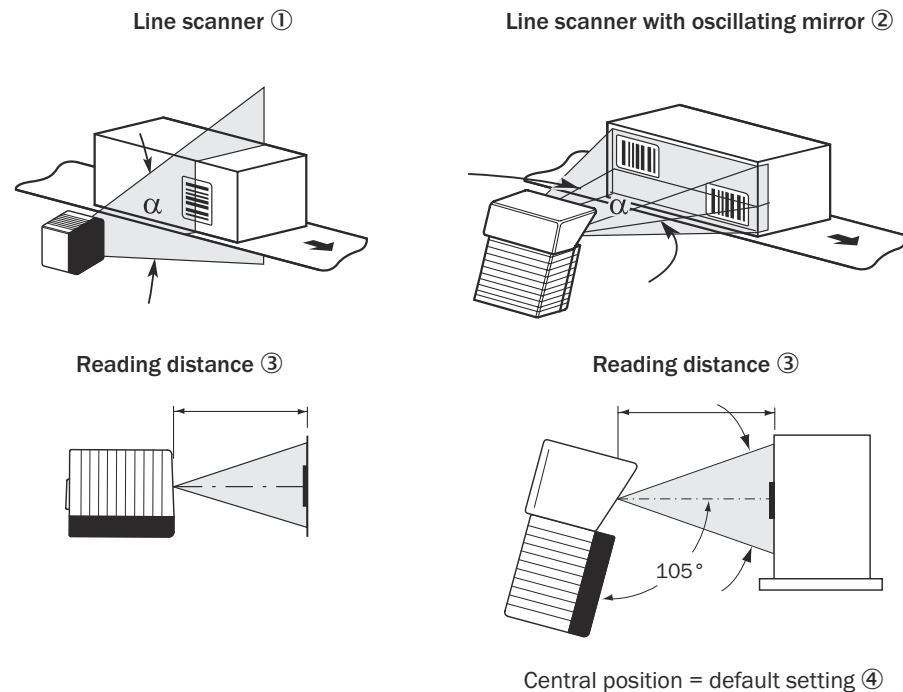

Figure 13: Allocation of scan line to bar code and conveyor direction
- Reading distance to bar code and aperture angle  $\alpha$  (see figure 13, page 29)